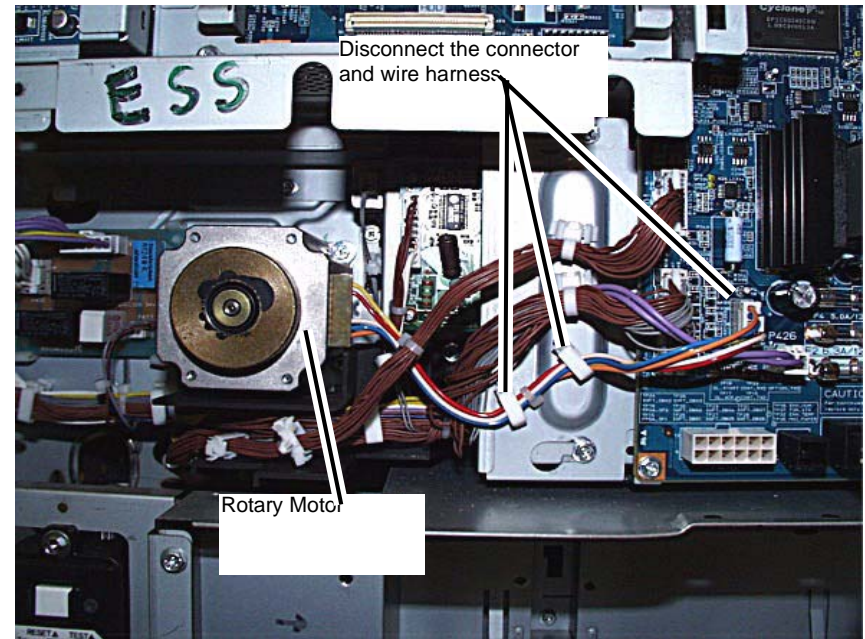

Figure 1 Disconnecting the connector and harness
4. Disconnect the Motor connector and wire harness clamps. (Figure 1)